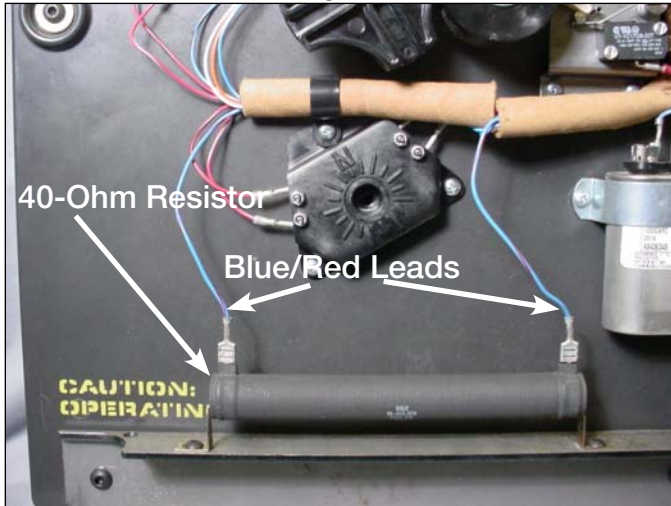

Figure 13.
4. Disconnect and remove the blue and red strip leads from the 40-ohm resistor. These connections are push-on connections. See Figure 13.